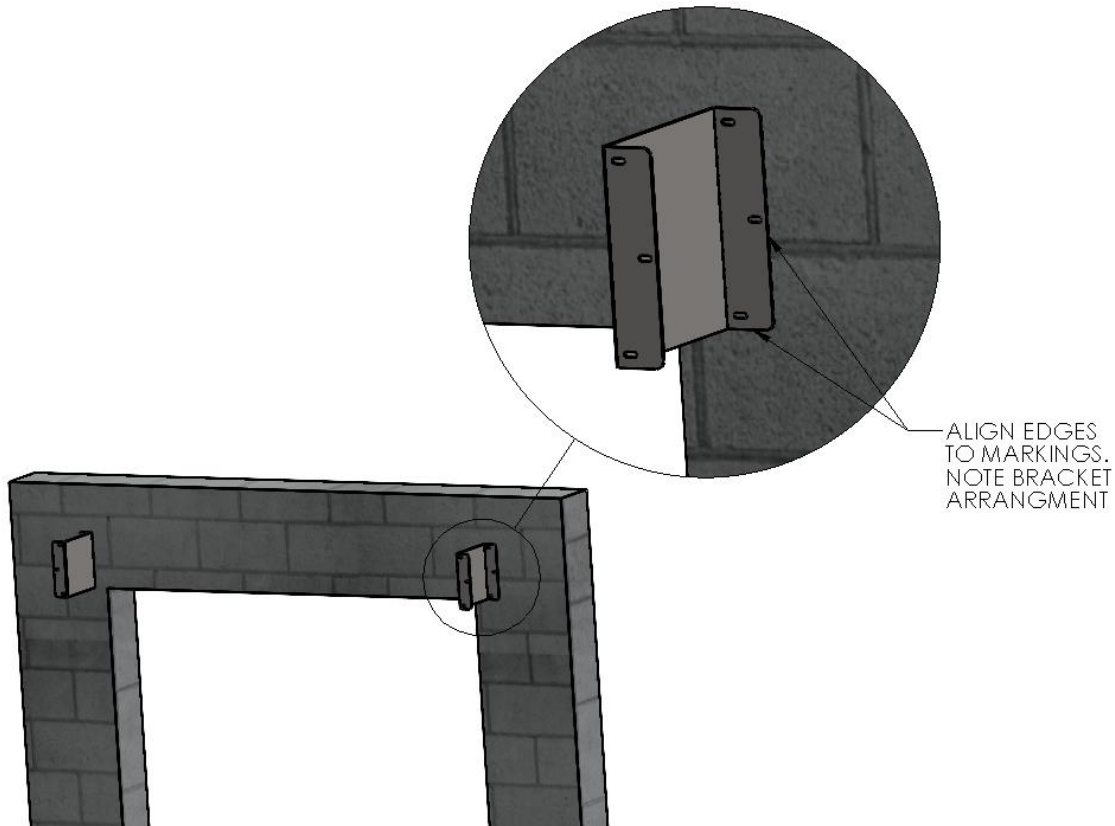

Figure 3 LOCATE/INSTALL HEADER OFFSET MOUNTING BRACKET
1. Hold Header Projection Mount Brackets at the wall markings. Orient it to fit between, and above, your markings on the wall. That is, with the flange facing outward, put the bottom edge on the height line, and the outer edge on your vertical overall width line. Trace the insides of its oval mounting slots onto the wall mount surface. (Figure 3 LOCATE/INSTALL HEADER OFFSET MOUNTING BRACKET)
2. Predrill through the centers of the traced locations for the mounting hardware, three (3) pilot holes on each side.
3. Using adequate mounting screws or bolts (depending on your building/surface material) attach the header offset brackets to each side of the opening. (Figure 3 LOCATE/INSTALL HEADER OFFSET MOUNTING BRACKET)